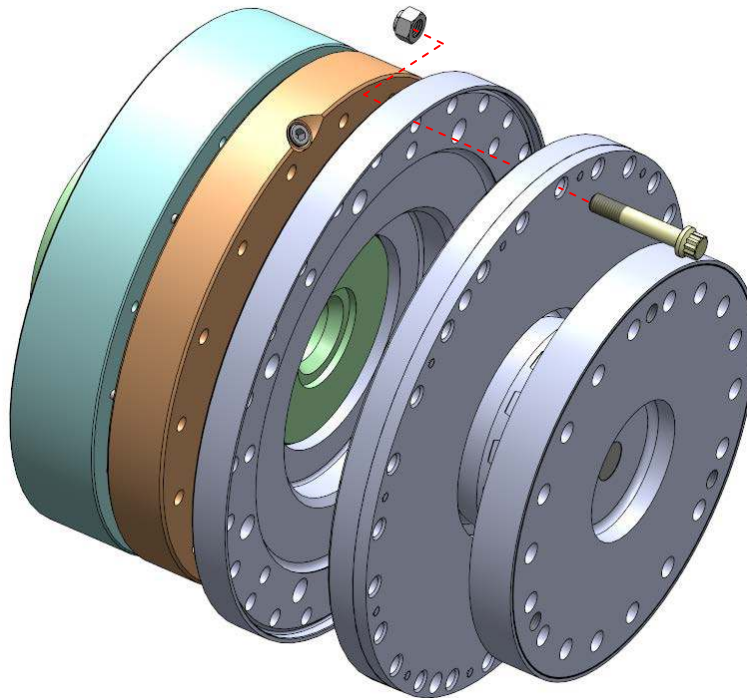

Figure 8 – Flex Assembly Installation on Hub Flange
4.1.1 Install one flex assembly onto the hub as shown in Figure 8 aligning the holes using Qty (4) bolts and nuts spaced 90 degrees apart. Tighten the bolts/nuts a few turns at a time in a criss-cross pattern to seat the pilot evenly. Install the remaining bolts and nuts and torque evenly in a criss-cross pattern to the torque shown on drawing HC-7692.